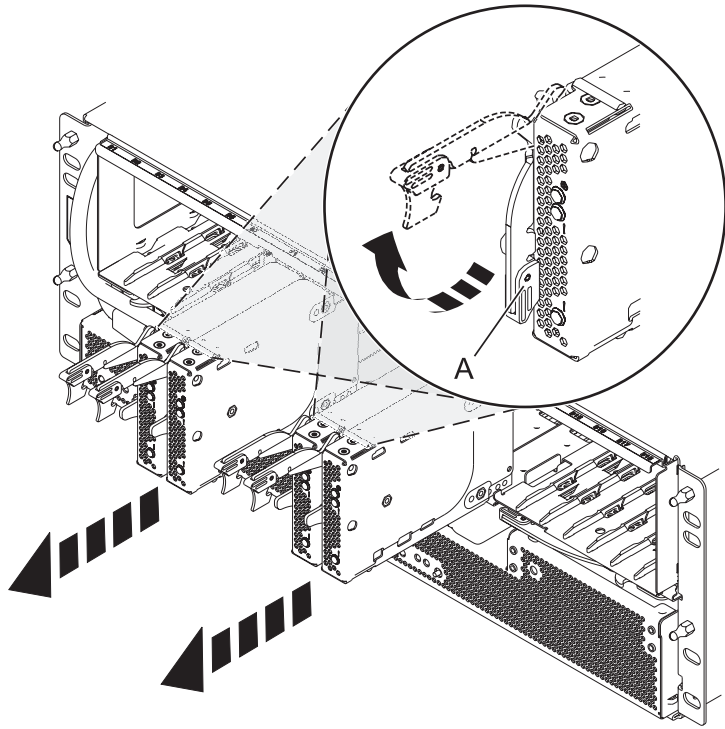

Figure 86. Removing the port card from the backplane
5. Remove the port cards and fillers as shown in Figure 86 on page 103.